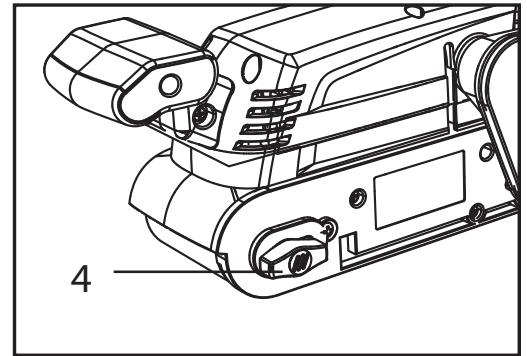

Fig. 3
7. To adjust the sanding belt, turn the belt tracking knob (Fig. 3 - 4) either clockwise or counterclockwise until the sanding belt runs down the center. Turning the screw clockwise will cause the belt to track more to the left (as viewed from the bottom of the sander); turning the screw counterclockwise will cause it to track more to the right. Run the sander for a short period of time and adjust the tracking until the sanding belt is running in the center of the roller. Make sure the belt does not rub against the casing of the sander.